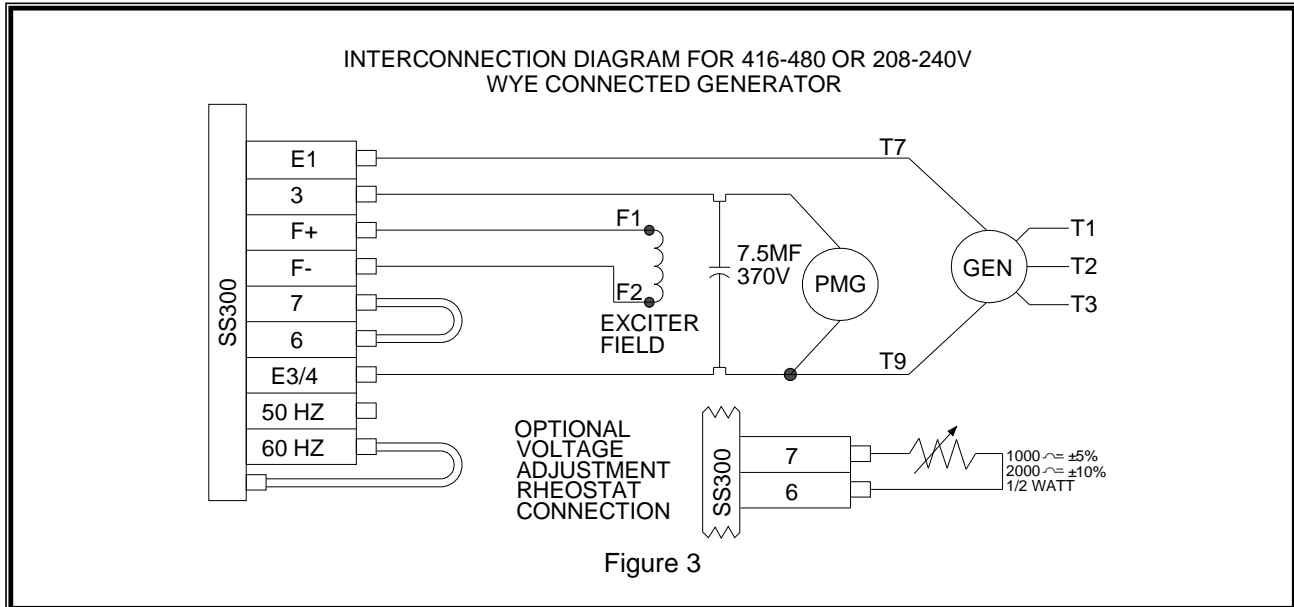

Figure 3
- When using a remote voltage adjust rheostat, remove the jumper wire across terminals 6 and 7 and install a 2000 ohm 1/2 watt (minimum) rheostat. (See Figure 3). This will give  $\pm 10\%$  voltage variation from the nominal. (For  $\pm 5\%$  voltage variation use a 1000 ohm 1/2 watt rheostat).
- There are two small jumpers on the regulator. (See Figure 3).